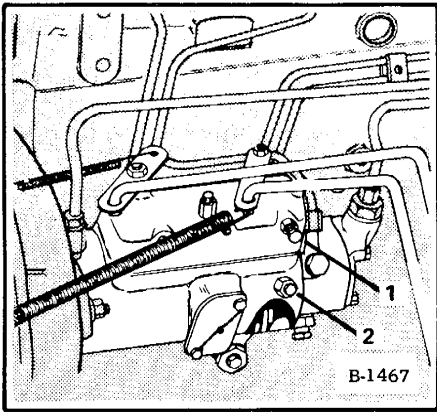

Fig. 40 Governor Vent
1. Loosen vent screw located near top of governor control cover (Figure 40, Item 1).
2. Loosen vent screw located on the side of fuel pump (Figure 40, Item 2).
- b. Fuel pump vent screw (Figure 40, Item 2).
- c. Governor vent screw (Figure 40, Item 1).